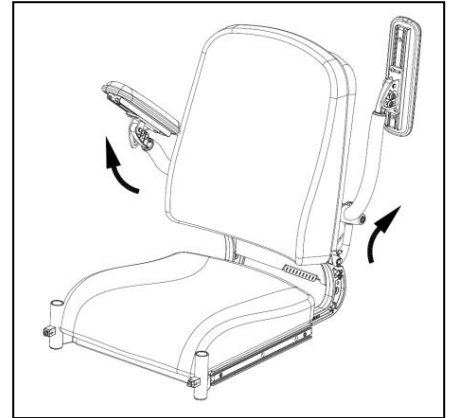

Figure 6.3
- Push the lever to the back to unlock the armrest (fig 6.3).
- Take the armrest out (fig 6.3). Seat yourself in the chair.